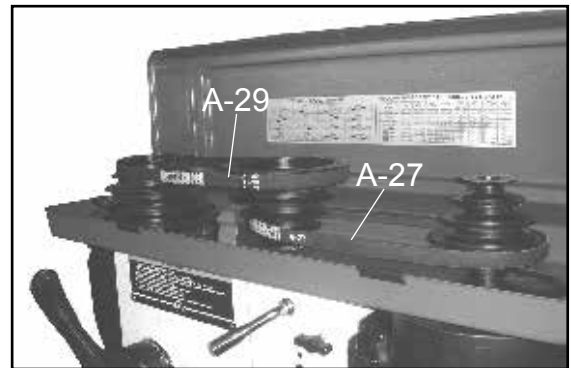

Figure 9
4. Install the idler pulley and drive belts. Simply slide the pivot post of the idler pulley into the corresponding hole in the drill press head. The small drive belt (A-27) is mounted to the motor pulley and the large drive belt (A-29) is mounted to the spindle pulley (Figure 9).